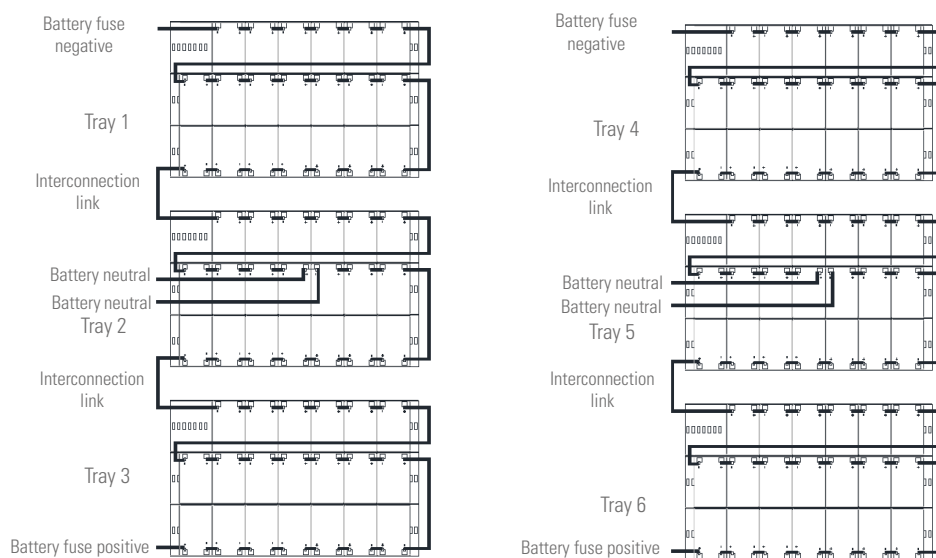
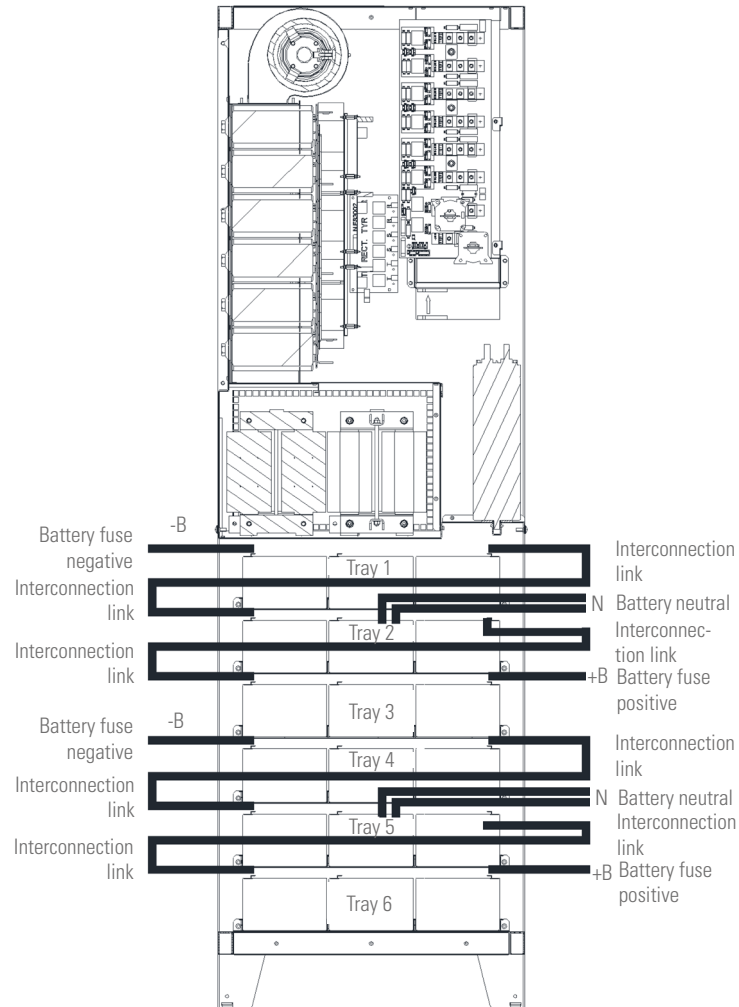

Fig. 31. Top view of the battery connection tray (12 V, 12-14 Ah).
Fig. 33. Top view of the battery connection tray (12 V, 12-14 Ah).
- Install the batteries received in separate packages as indicated in Fig. 31 and Fig. 33.